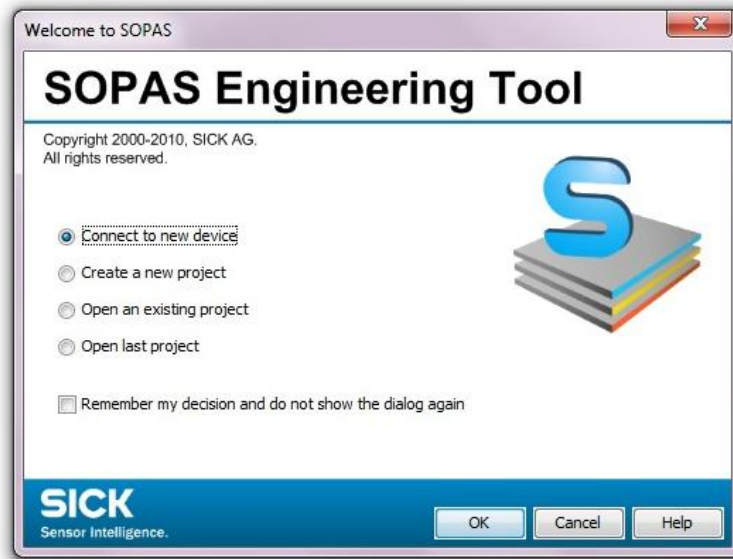

Fig. 3
2. Select "Connect to new device". Fig. 3.